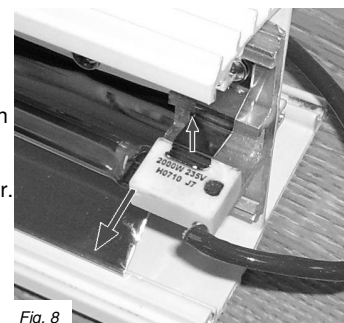

Fig. 8
10. Release the lamp end by pressing the top edge of the spring clip away from the lamp on the lamp holder. Gently lift the end of the lamp upwards so it is no longer being retained by the clip (Fig. 8). Repeat at opposite end to fully remove the lamp.